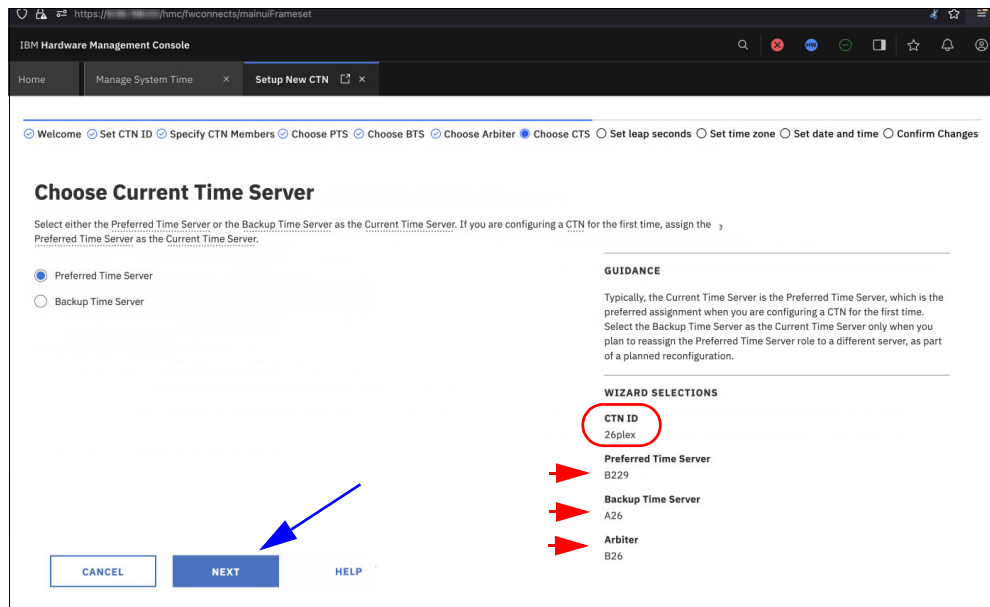

Figure 3-10 Choose the Current Time Server
9. Select the Current Time Server, as shown in Figure 3-10.